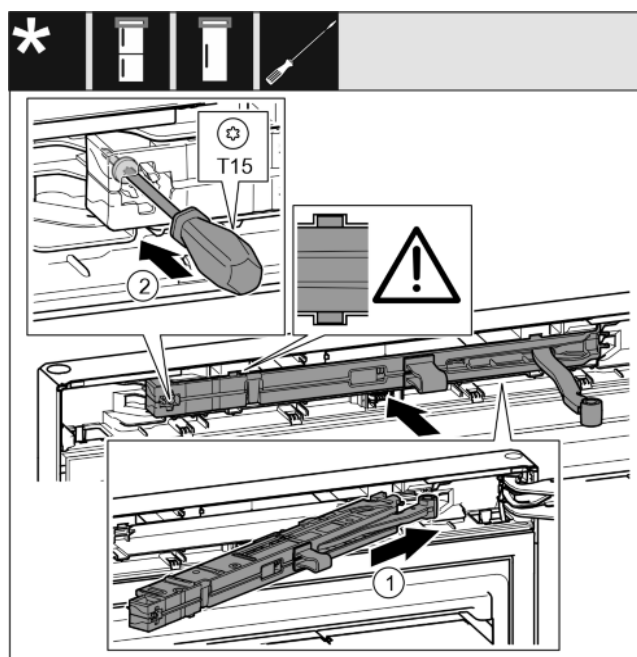

Fig. 38
- ▶ Slide the soft stop unit on the bearing bracket side at an angle into the slot as far as it will go. *Fig. 38 (1)*
- ▶ Tighten the screw with a T15 screwdriver. *Fig. 38 (2)*